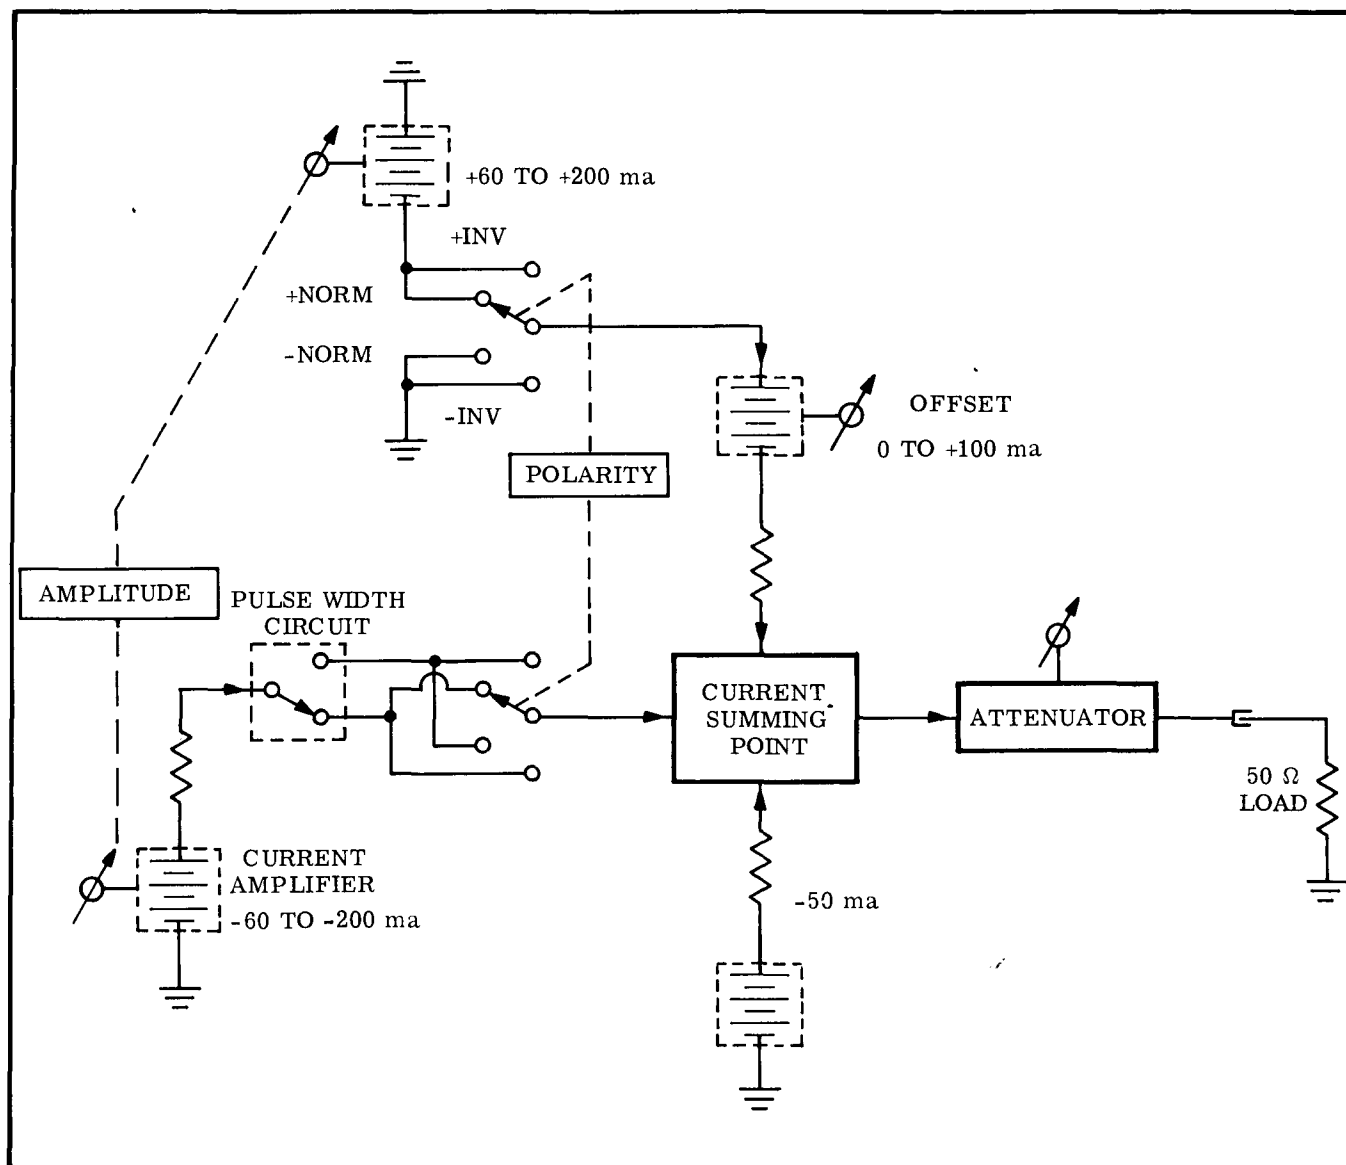

Fig. 3-2 Amplitude Logic
e. The amplitude logic of the Model 139B is determined by summing the currents from a pulsed current amplifier, a negative constant current source, and a manually adjustable positive constant current source. Fig.3-2 is a simplified representation of the relationship of these current sources.